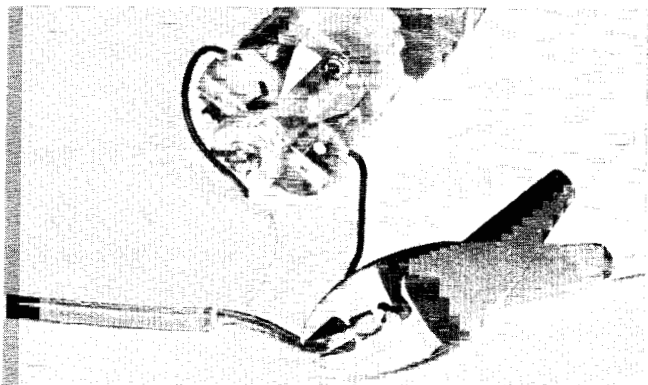

Figure 5.81
5.81 SECURE MOTOR CONNECTIONS (fig. 5.81)